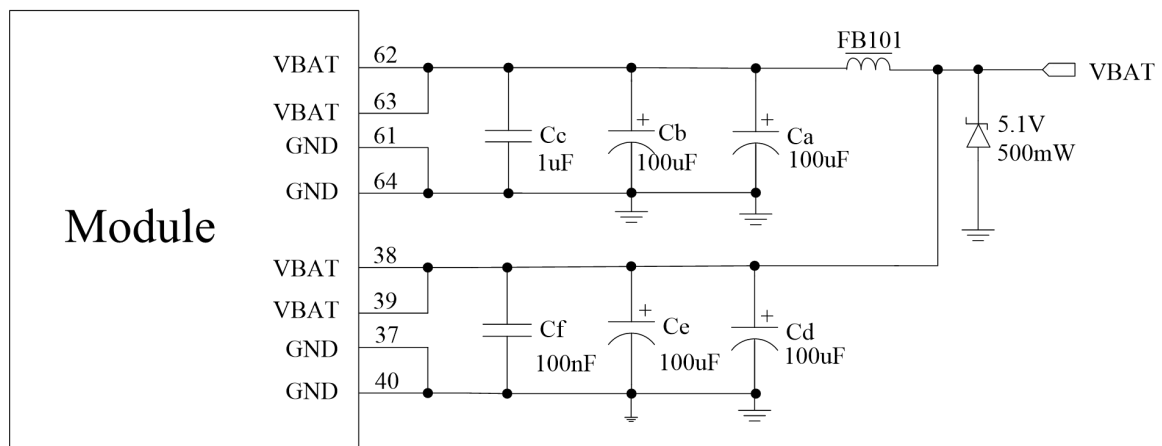

Figure 6: Power supply application circuit
*Note: The test condition: The voltage of power supply for VBAT is 3.8V, Cd=100 µF tantalum capacitor (ESR=0.7Ω) and Cf=100nF (Please refer to Figure 6—Application circuit).*